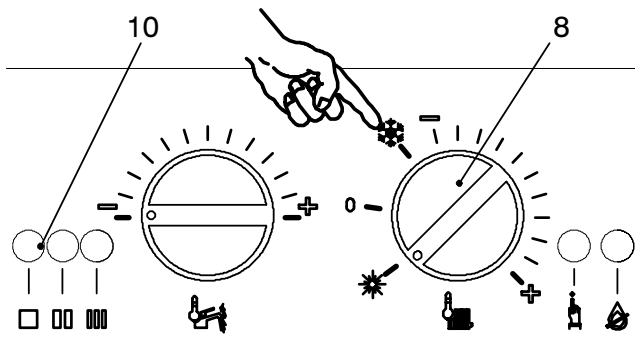

Fig. 2.6
- 4 If d.h.w. supply only is required (combi), position the function selector 8 as in Fig. 2.6.